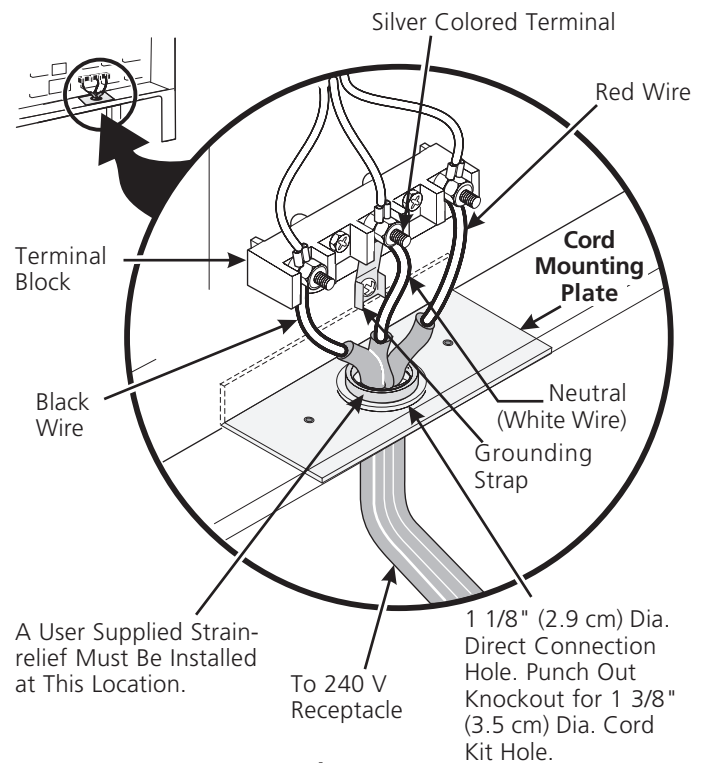

Figure 4
**NOTE:** Electric Slide-in Range is shipped from factory with 1 1/8" (2.9 cm) dia. hole as shown on figure 4. If a larger hole is required, punch out the knockout.
If local codes permit connection of the frame grounding conductor to the neutral wire of the copper power supply cord (see Figure 4):
4. Replace the 3 nuts on the terminal block (see figure 4).